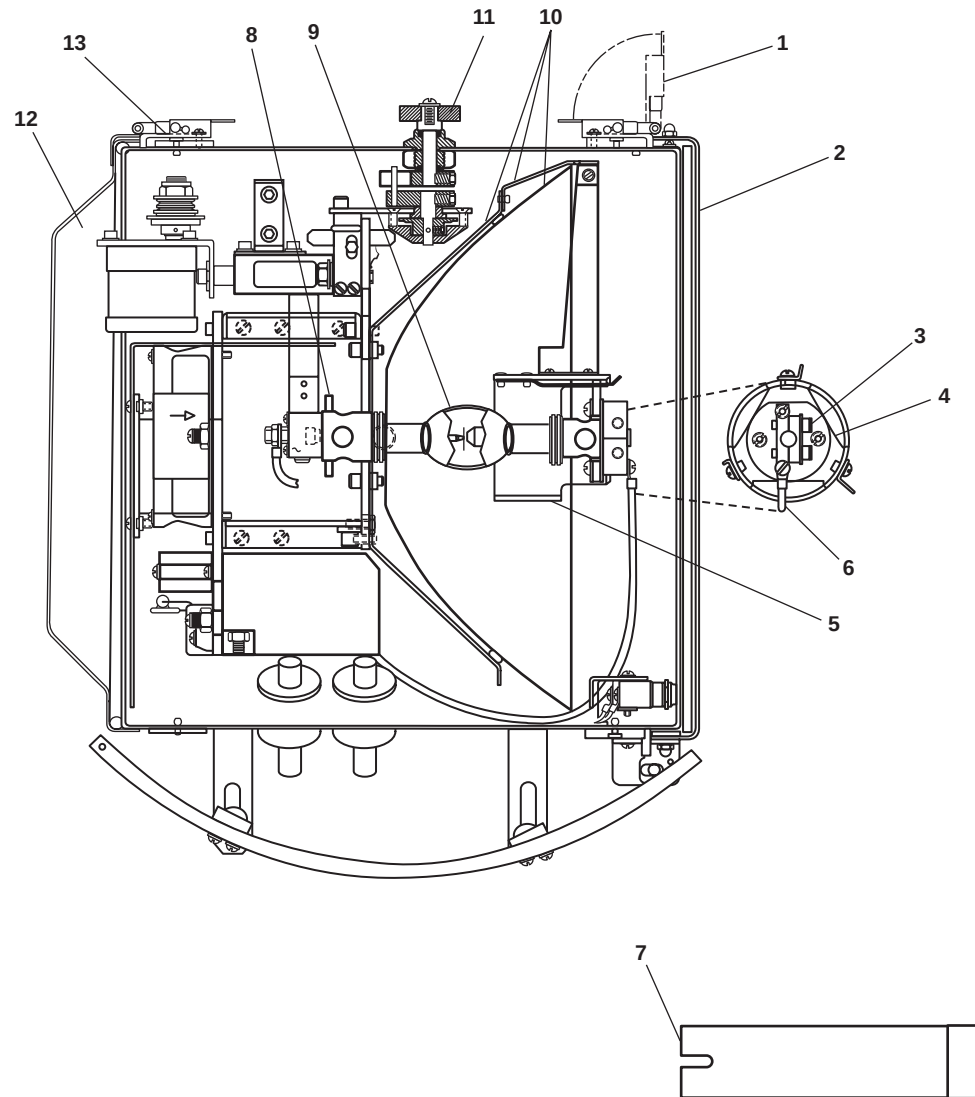

Figure 1. Searchlight Lamp
2. Release the latch (figure 1, item 1) that secures the glass cover (figure 1, item 2), and open the cover.
3. Loosen, but do not remove, the two clamp screws (figure 1, item 3).
4. Remove the insulator assembly (figure 1, item 4) from the ring assembly (figure 1, item 5) and gently let it dangle on the end of the positive wire lead (figure 1, item 6).
5. Insert the lamp wrench (figure 1, item 7) slots over the drive pins (figure 1, item 8) on the lamp (figure 1, item 9).
6. Remove the lamp (figure 1, item 9) from the enclosure.
7. Install a protective cover on the lamp (figure 1, item 9).
1. Install the lamp (figure 1, item 9) using the lamp wrench (figure 1, item 7).
2. Install the insulator assembly (figure 1, item 4) and secure it to the ring assembly (figure 1, item 5) with the clamp screws (figure 1, item 3).
3. Close the glass cover (figure 1, item 2) and secure it with the latch (figure 1, item 1).
2. Release the latch (figure 1, item 1) that secures the glass cover (figure 1, item 2) and open the cover.
3. With a water-dampened, clean wiping rag, wipe down the reflector (figure 1, item 10).
5. Spray the glass cover (figure 1, item 2) with commercial glass cleaner and wipe it dry with a clean wiping rag.
1. Close the glass cover (figure 1, item 2), and secure it with the latch (figure 1, item 1).